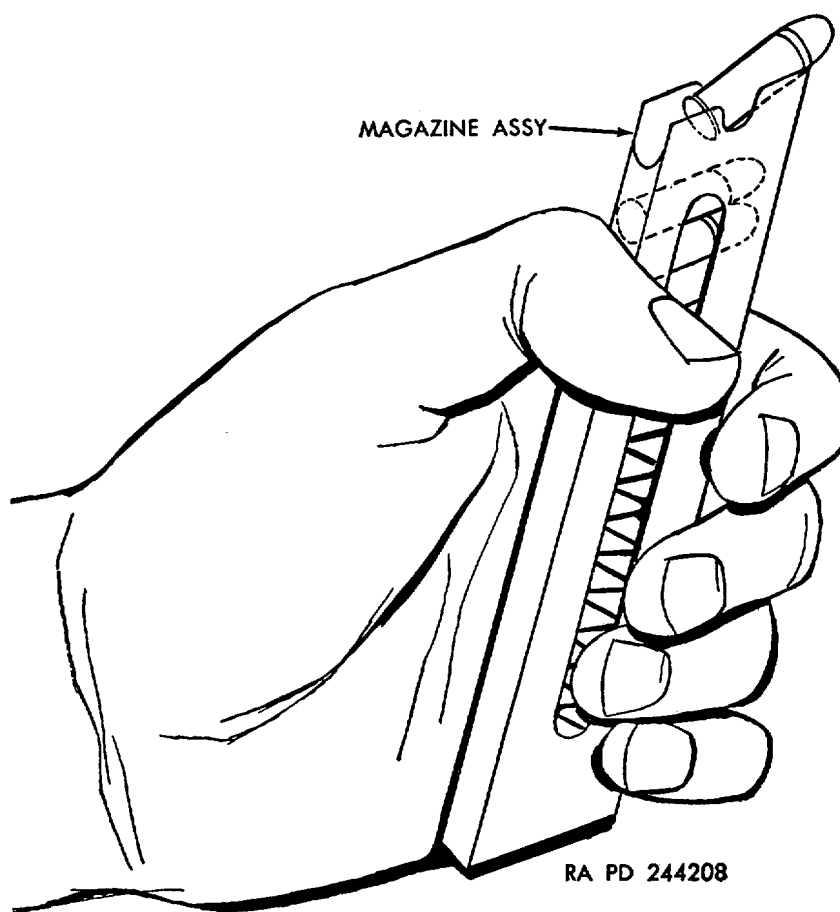

Figure 16. Inserting cartridge into magazine assembly (high standard).
*c. Magazine Assembly.* The magazine assembly (fig. 16) has a 10-cartridge capacity. The spring-loaded magazine follower is depressed by means of the magazine button in order to insert a cartridge. The cartridges are inserted, rim end first, through the front of the magazine lips (fig. 16).